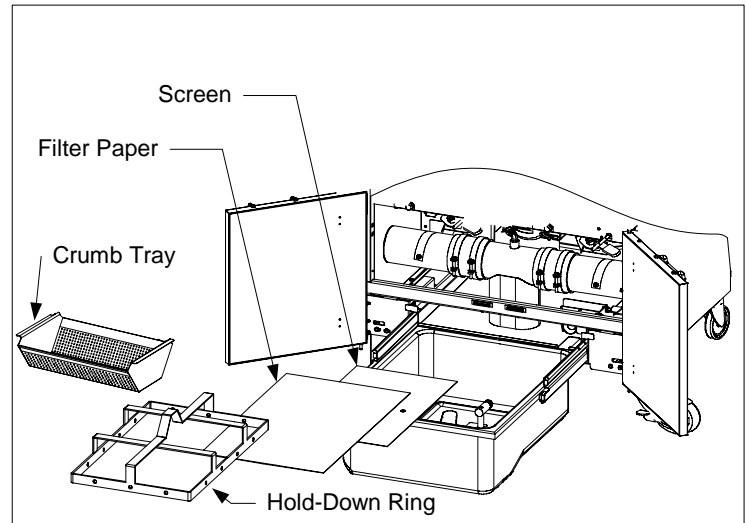

Figure 1
1. Pull the filter pan out from the cabinet and remove the crumb tray, hold-down ring, filter paper and filter screen. (See Figure 1) Clean all components with a solution of detergent and hot water then dry thoroughly.
3. Then in reverse order, place the metal filter screen in the center of the bottom of the pan, then lay a sheet of filter paper on top of the screen, overlapping on all sides. (See Figure 1) If using a filter pad, ensure the rough side of the pad is up and lay the pad over the screen, making sure that the pad is in between the embossed ridges of the filter pan.